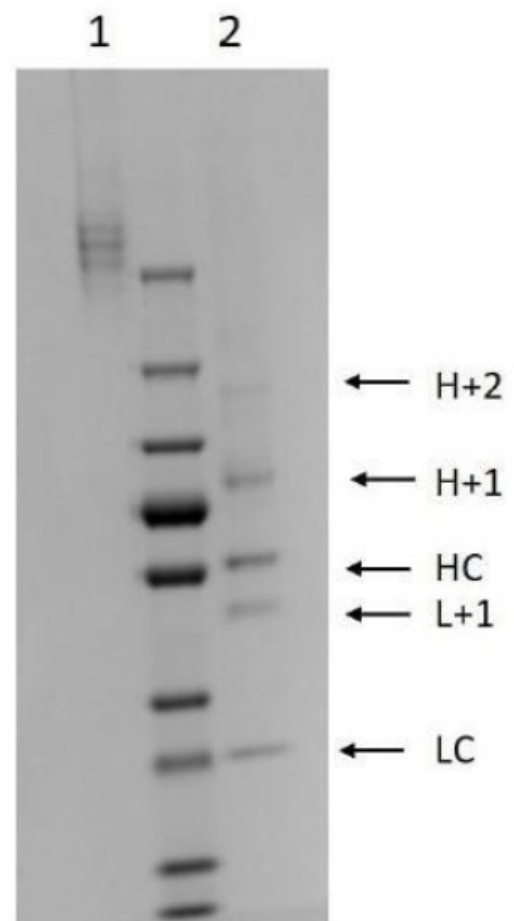

Fig 4.
12.9. Finally, with 10 μg scale conjugation, one would probably be reluctant to run more than 1 μL of conjugate routinely on gels. A typical profile for 1 μL (from an 11 μL scale reaction) under both non-reducing and reducing conditions is shown in Fig 4. You may prefer to run 1 μL of sample in just one of these conditions. The non-reduced sample (Track 1) shows clearly that all antibodies are conjugated (in this case mostly with 1-3 oligos). Following reduction, L+1, H+1 and H+2 are clearly visible. H+3 may be absent when only 1 μL of conjugate is analyzed ($\sim 0.9 \mu\text{g}$) in reducing conditions.